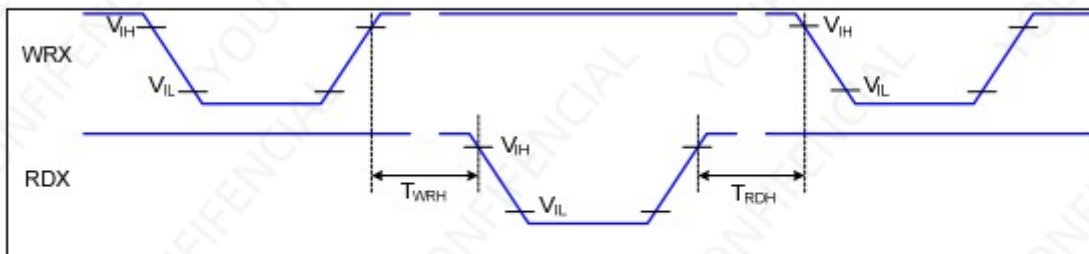

Figure 3 Write-to-Read and Read-to-Write Timing
5. The electro-optical response time measurements shall be made as FIG.3 by switching the "data" input signal ON and OFF.